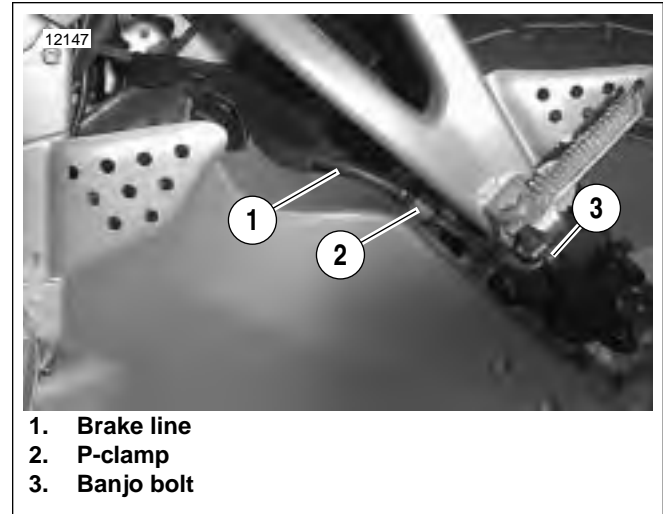

Figure 2-56. Rear Brake Line
7. See Figure 2-56. Remove p-clamp (2) securing brake line (1) to the left side of swingarm.
3. See Figure 2-56. Secure brake line (1) to left side of swingarm with p-clamp (2) and tighten to 36-60 in-lbs (4-7 Nm). See D.1 HOSE AND WIRE ROUTING for brake line routing.